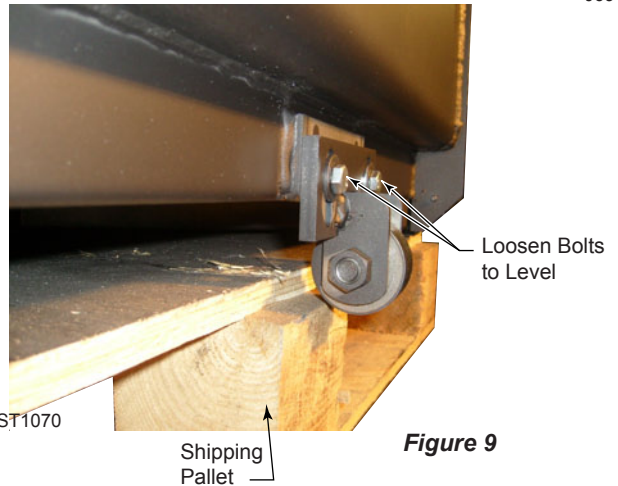

Figure 9
- If the rear of the insert needs to be adjusted you can slide the rear wheel off the pallet and loosen the two (2) bolts (1/2" wrench). *Figure 9*